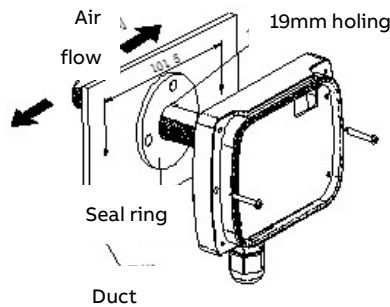

Figure 9
2. Install without the flange, according as figure 9